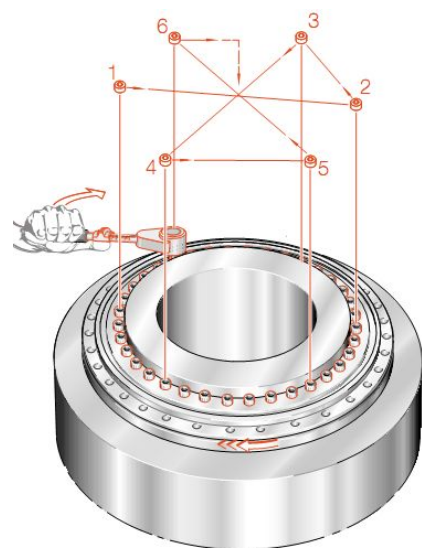

Figure 2
1.3 Mounting forces must only be applied to the bearing ring to be fitted, never through the rolling elements. Tighten the fixing screws in crosswise using a torque wrench (shown in figure 2).